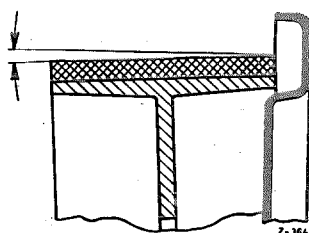

Fig. 42—8/2
14. Check the anchor pin in the brake anchor plate. The pin must be perpendicular to the brake anchor plate and the wheel hub. The maximum admissible deviation of the brake shoe is  $a = 0.5 \text{ mm}$  (see Fig. 42—8/2).